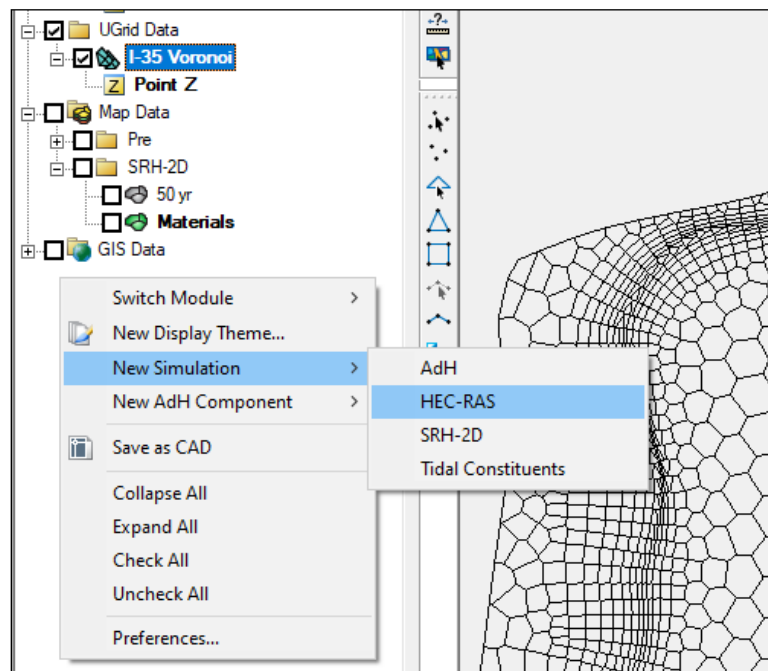

Figure 2 Creating a new HEC-RAS simulation
1. Right-click in an empty space in the Project Explorer and select *New Simulation | HEC-RAS* (Figure 2).